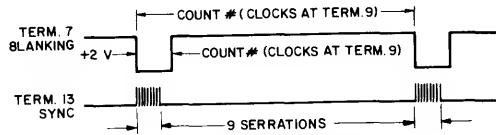

Fig. 7 - Blanking synchronous divider ratio and blanking pulse width (applies to test referenced to Note 21).
- Number of clocks occurring during the blanking gate period (See Fig. 7)